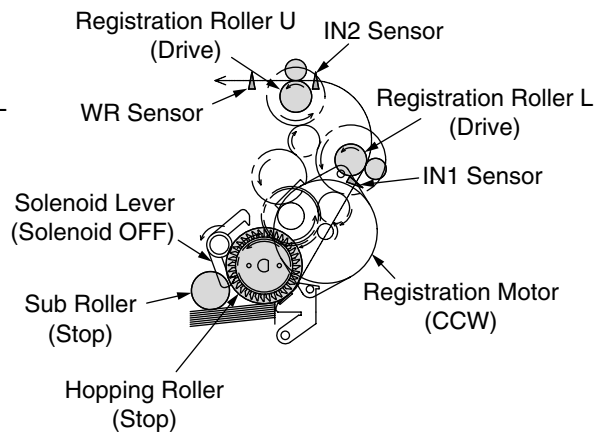

Figure 2-2
3. As indicated in Figure 2-2, the solenoid is turned OFF and paper is fed with registration roller L. (The registration roller L feeds the paper when the solenoid is OFF.)